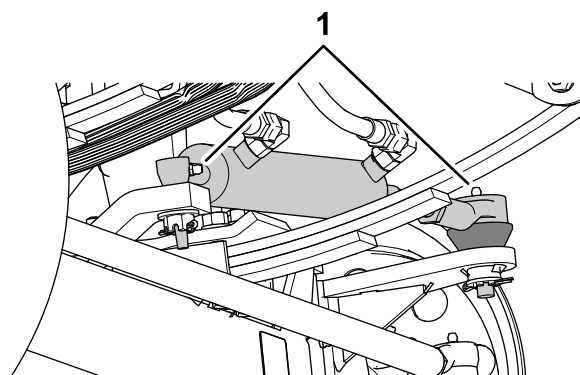
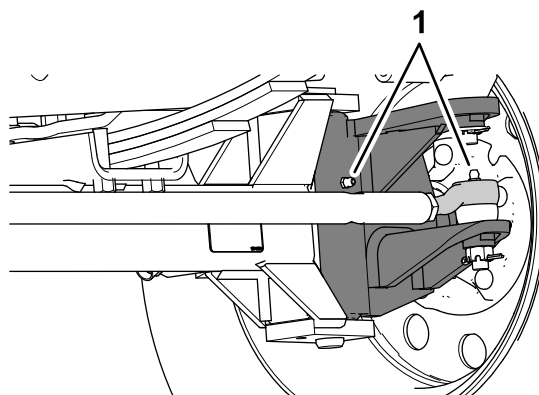

Figure 71
Figure 72
1. Wipe the grease fittings clean (Figure 71 and Figure 72).
2. Pump grease into the grease fittings (Figure 71 and Figure 72).
Note: The grease fittings positions are illustrated in Figure 71.